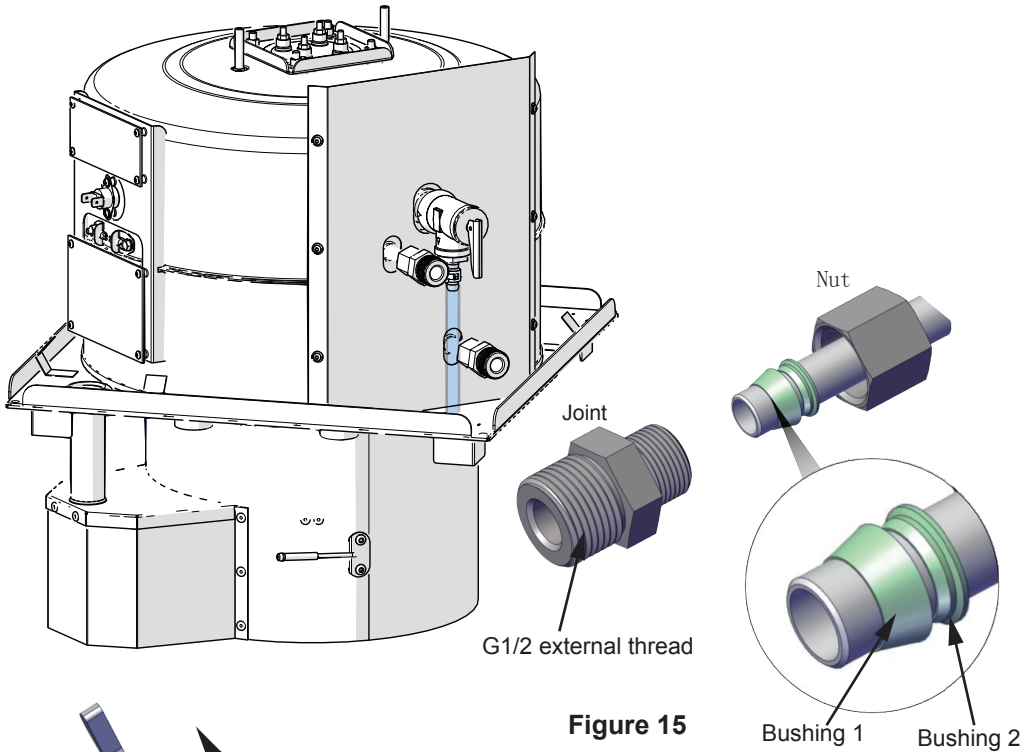

Figure 15
- Then bushing 1 and bushing 2 pass through the water inlet and outlet pipes according to the orientation of "Fig. 15".